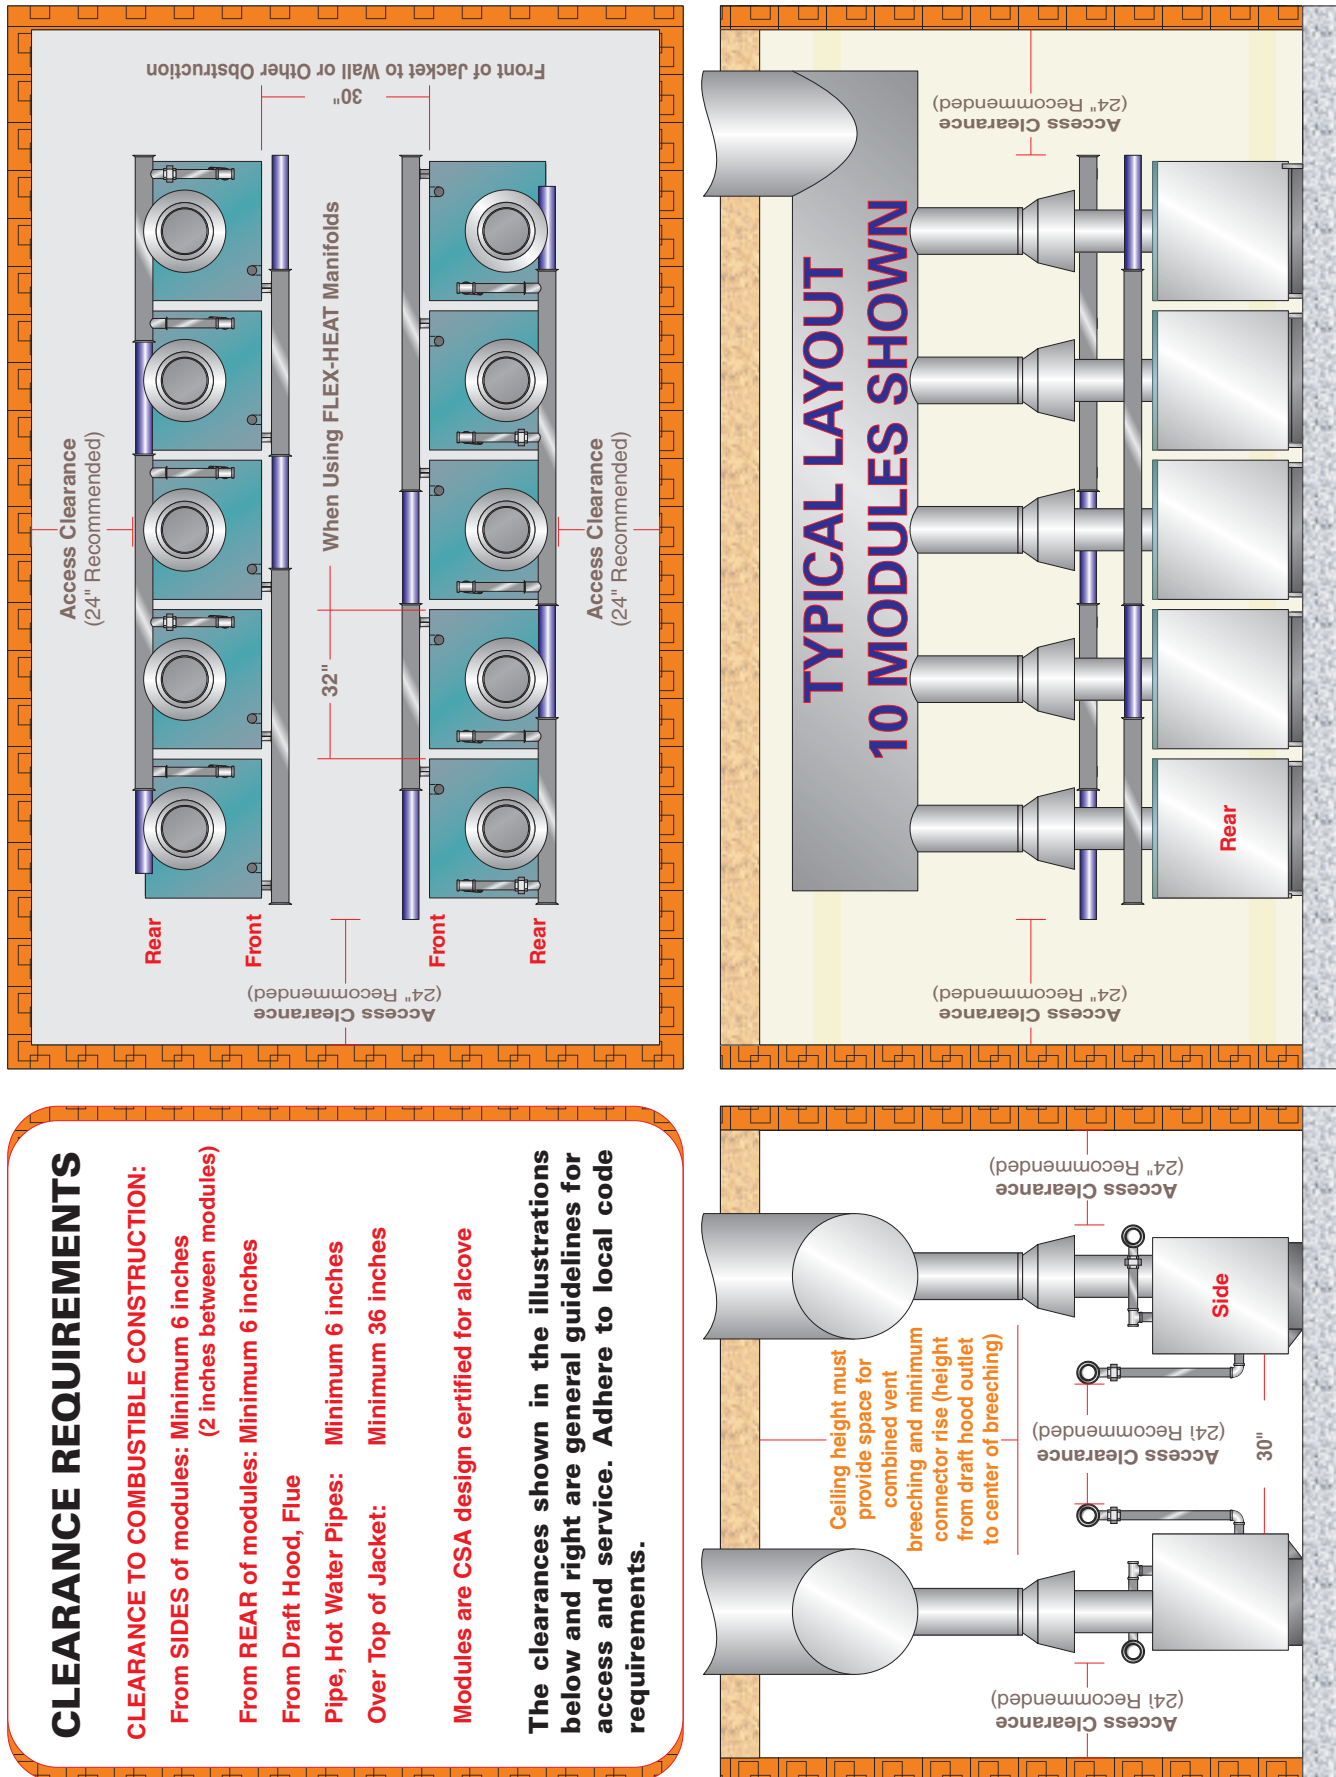

Figure 3.5: Clearances to Combustible Construction and for Accessibility
7. See Figure 3.5 for clearances to combustible construction and for accessibility.